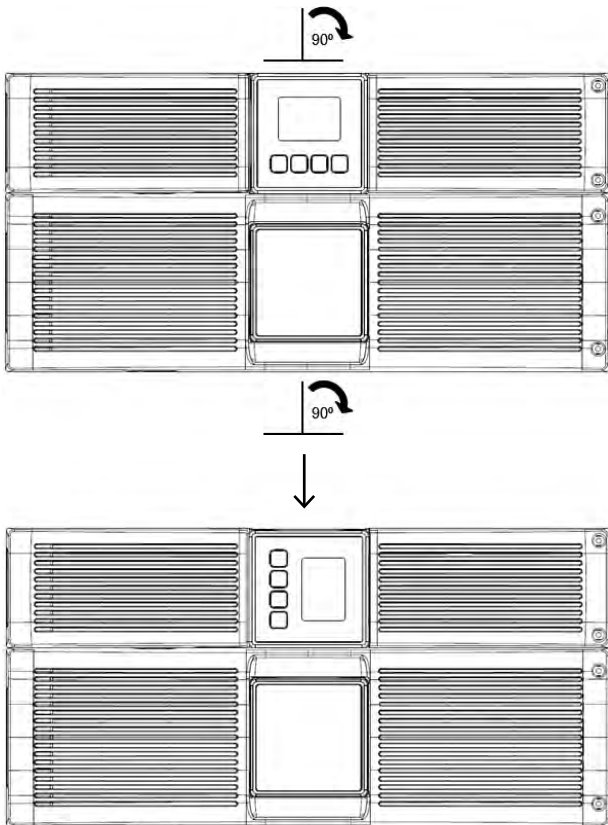

Figure 6: Display rotation
1. Carefully rotate the LCD control panel 90° to the right in the top and bottom front panels as shown in Figure 6.